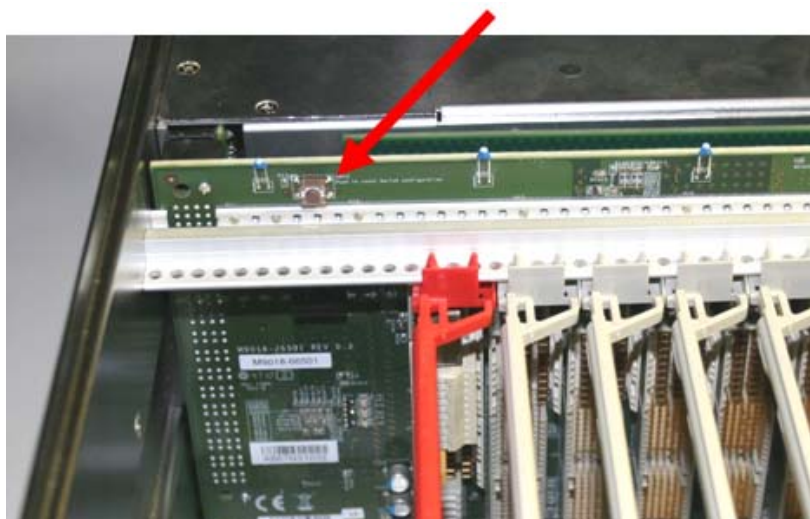

Figure 49 Load Base Configuration Pushbutton
- 3 Identify the Load Base Configuration Pushbutton at the top of the backplane behind the three-wide expansion slot to the left of slot 1—see Figure 49.